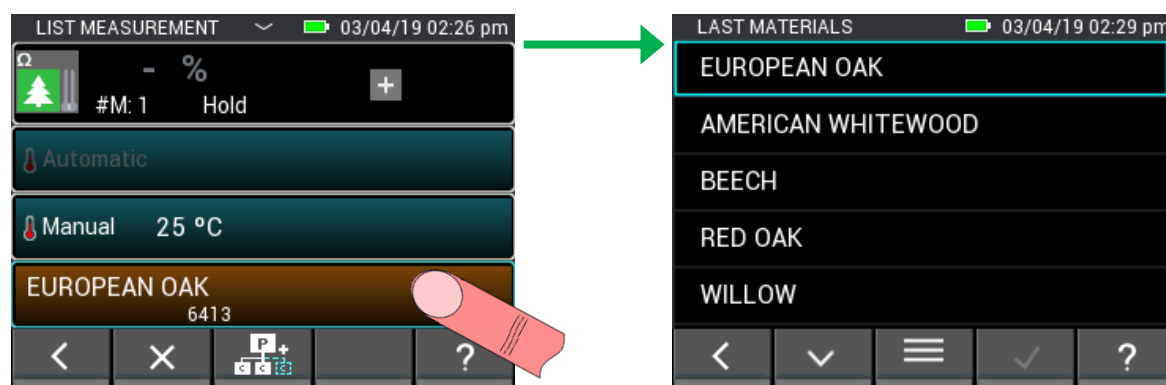

Figure 5-5: Wood type selection
The type of wood can be selected from the wood type selection screen. The already visible wood types in the selection are saved favourites and can be selected directly. With button (1) in Figure 5-5, the functions of the lower bar can be changed; button (2) is used to display the complete list of wood types.
If the functions of the lower bar are changed in the wood type selection (Figure 5-5), buttons are displayed with the option (1) for keyword search and option (2) for editing the wood favourites list.